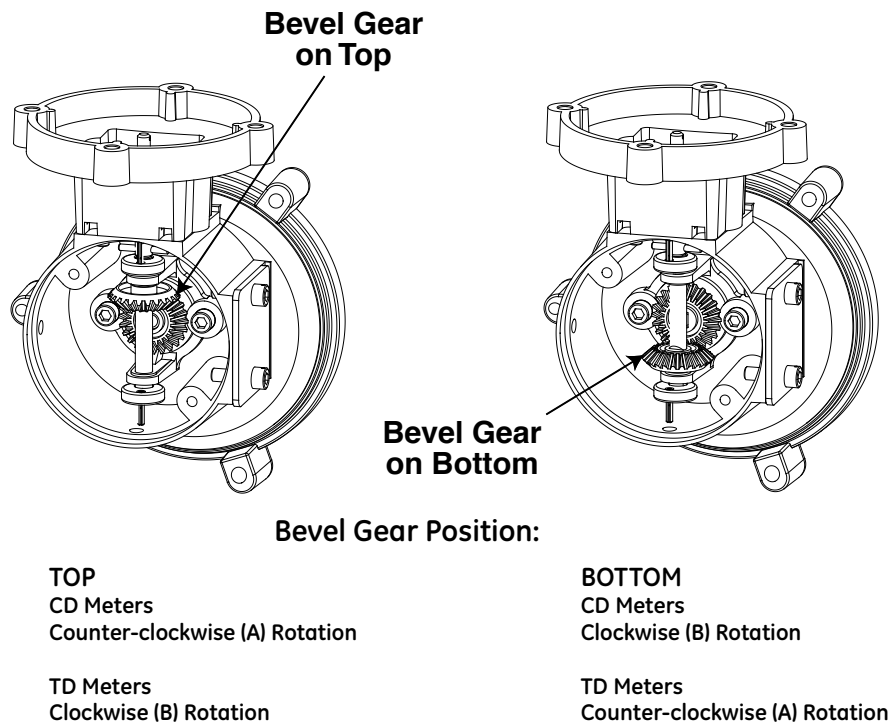

Figure 21 - Placement of bevel gears determines rotational direction
3. Rotate the Bevel Gear Train assembly 180° to obtain the proper Drive Dog rotation (refer to Figure 21). Making sure the O-ring behind assembly remains in place; re-install the gear assembly in the vertical position. Torque the screws to 4-6 in.-lb.